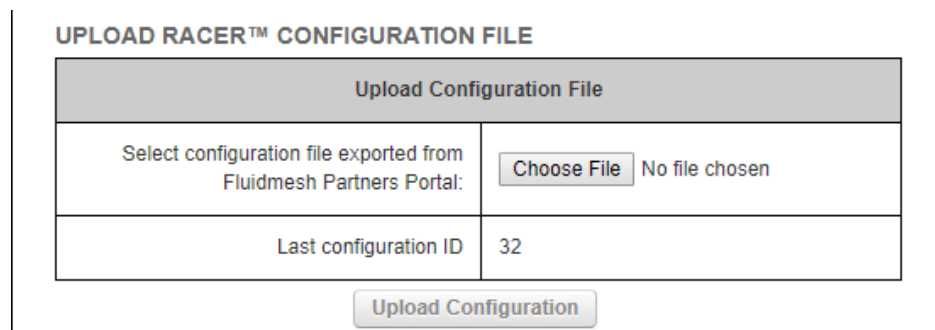

Figure 19. Configurator interface (FM Racer configuration file upload dialog)
3. Click the **Choose File** button in the **Upload Configuration File** section (Figure 19 \(page 58\)).